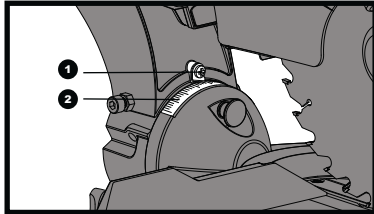

Fig 21
- 1) When the blade is exactly 90° (0°) to the table, loosen the bevel indicator screw (1) using a # 2 Phillips screwdriver.
- 2) Adjust bevel indicator (2) to the "0°" mark on the bevel scale and retighten the screw. (See fig. 21)